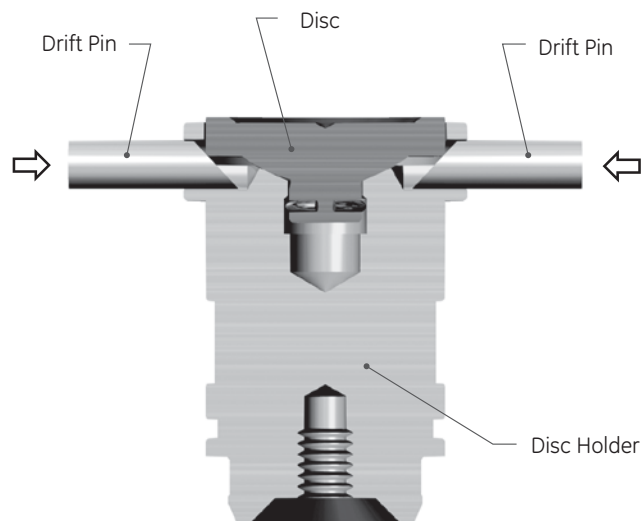

Figure 12: Disc Holder
- ii. Start inserting special drift pins into the holes in the disc holder (Figure 12) with the tapered portion of the pins working against the top of the disc, as indicated. See Figure 62 and Table 17 in the Maintenance Tools and Supplies section (Section XXII.D) for drift pin size.